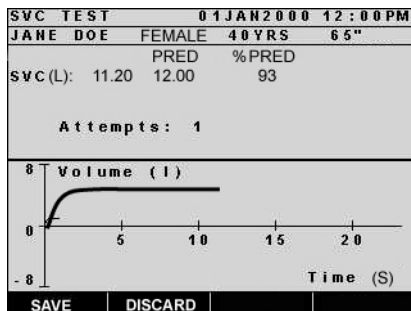

Figure 22: SVC Test Complete
6. Upon completion of the test maneuver the spirometer will display the volume-time curve, measured, predicted, and % of predicted values, and number of maneuvers performed (Figure 22).